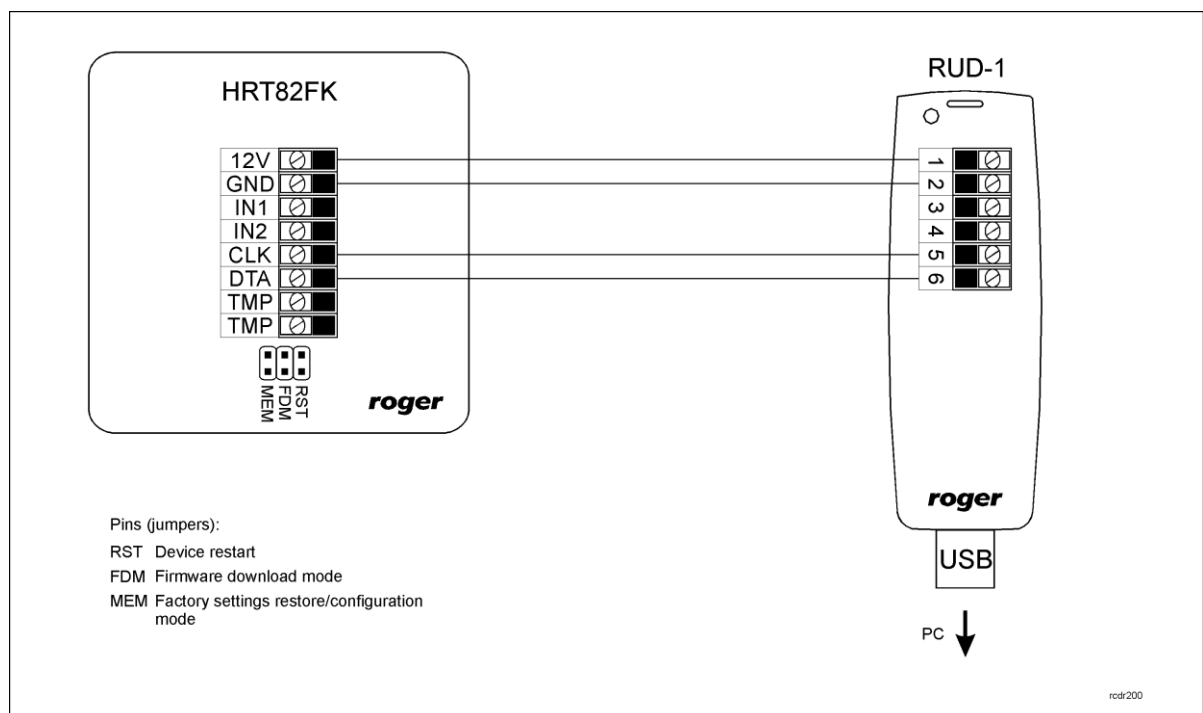

Fig. 6 HRT82FK and RUD-1 connection
1. Connect device to RUD-1 communication interface according to fig. 6